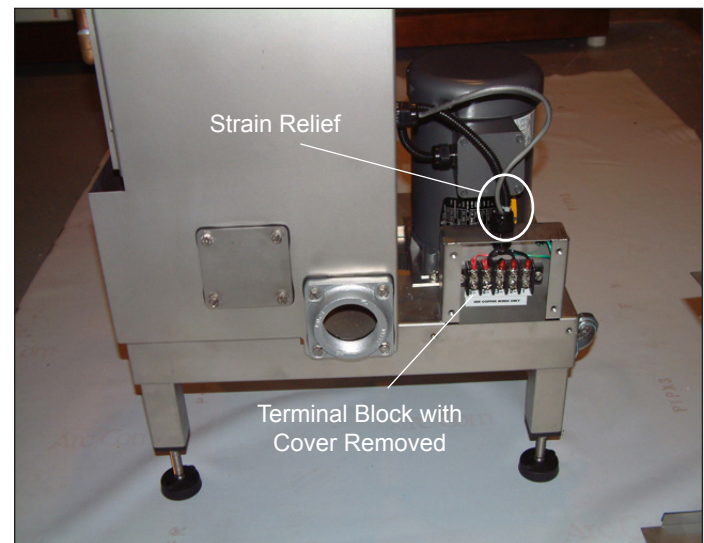

Figure 14. Terminal Block
6. Remove terminal block cover and gasket from side of cabinet (Figure 14).
7. Remove strain relief securing motor wires to terminal block (Figure 14).
23. Install terminal block enclosure cover and gasket on side of unit (Figure 14).